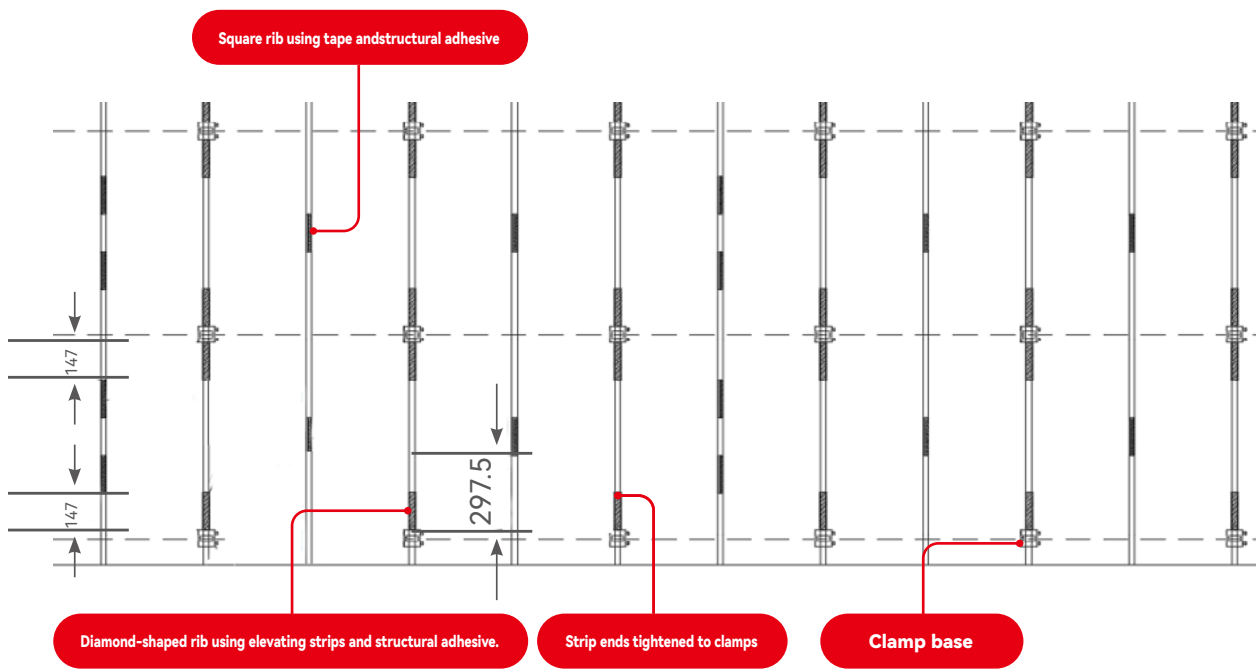

FIGURE 8
- ⑤ Installing in the above installation sequence, the overall installation effect is as follows (Figure 8)